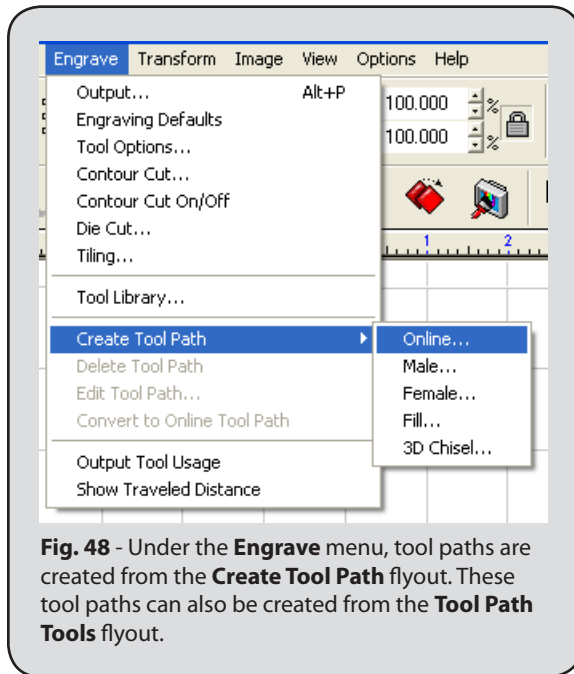

Fig. 48 - Under the **Engrave** menu, tool paths are created from the **Create Tool Path** flyout. These tool paths can also be created from the **Tool Path Tools** flyout.
3. Select the text shape, and then create an **Online** tool path from the **Engrave** menu (Fig. 48).